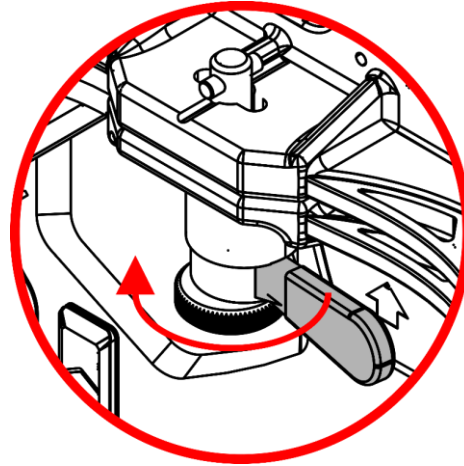

Fig. 12
- 04) Turn the **lever (A)** clockwise to lock the **locking mechanism (06/16)**, as shown in Fig. 12 and 13.